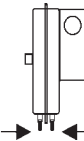

Figure 2
**Air Sampling Connection (Figure 2)**
Model FS-751-112 is designed to accept flexible tubing by means of barbed 1/4" slip-on connections. For sample lines of up to 10 feet, 1/4" OD tubing is acceptable. For lines up to 20 feet, use 1/4" ID tubing. For lines up to 60 feet, use 1/2" ID tubing. Locate the sampling probe a minimum of 1.5 duct diameters downstream from the air source. Install the sampling probe as close to the center of the airstream as possible. Refer to Figure 2 to identify the high pressure inlet (H) and the low pressure inlet (L). Connect the sample lines as follows: